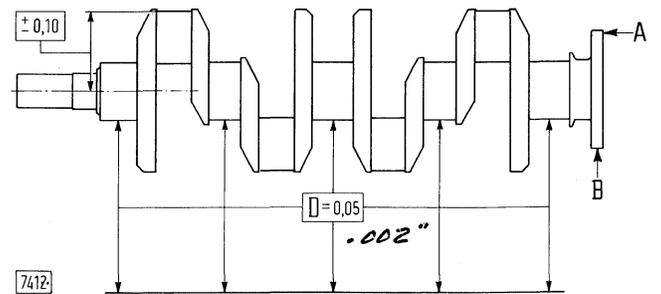

Fig. 2-17 Crankshaft alignment details.
- With the shaft over V-blocks maximum misalignment should be .05 mm or .002 in (D, Fig. 2-17).
- Crankpin periphery-to-shaft centreline should not exceed  $\pm .10$  mm or .004 in (Fig. 2-17)
- Crankshaft flange run-out (A) on periphery should not exceed .025 mm or .001 in; flange eccentricity (B) should not exceed .03 mm or .0012 in.